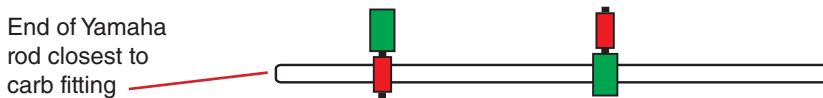

Figure 2
- Slide slip connectors over Yamaha throttle rod as shown in Fig. 2.